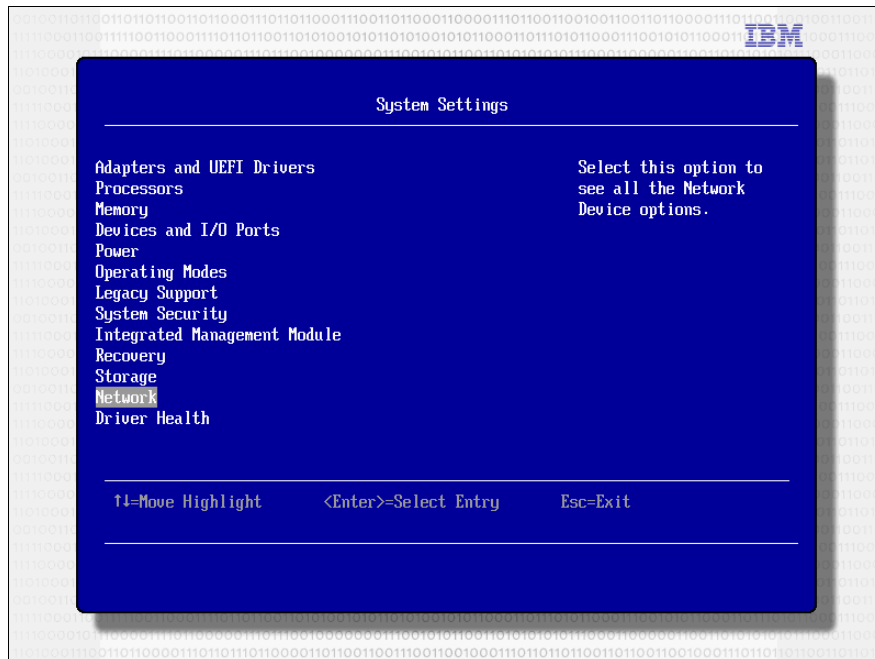

Figure 2-29 System Settings menu
3. In the System Settings menu, select **Network**, as shown in Figure 2-29.